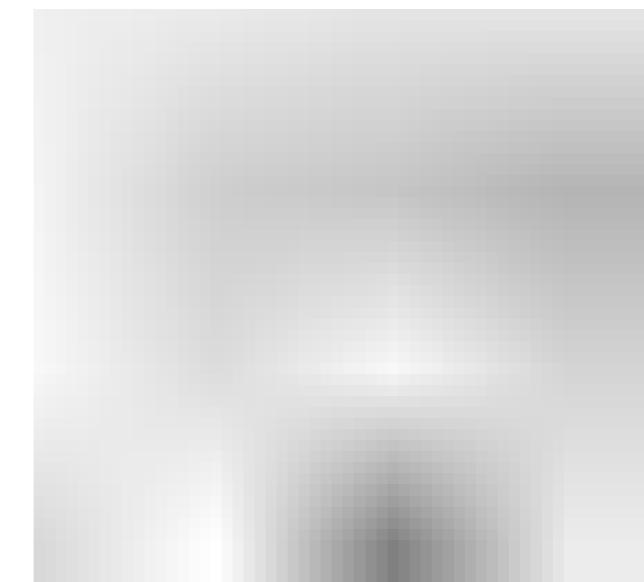

Figure 6.2
Step2: Click the "Set Origin G92" button to set the origin position (that is, the lower left position of the pattern outline), as shown in (Figure 6.2)